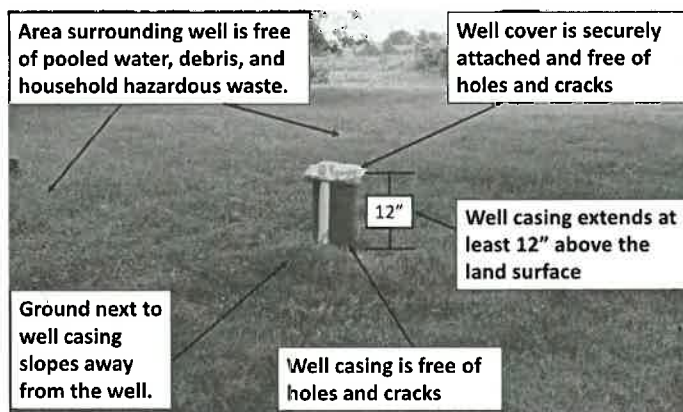
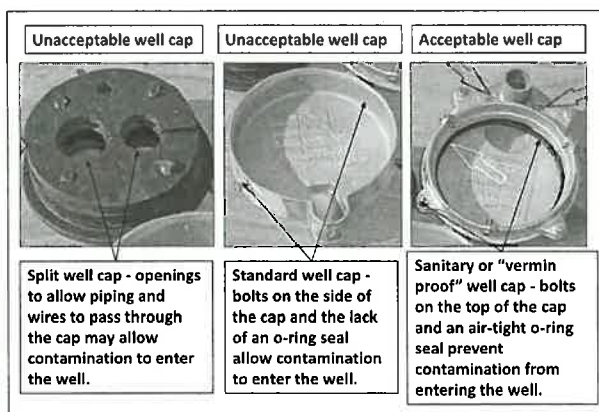

Figure 1: Photo of a properly constructed well.
Figure 2: Photos of acceptable and unacceptable well caps
- **Maintenance of well:** Homeowners should inspect the well casing, well cap, and well area at least annually to make sure that the well is protected from potential sources of contamination (see Figures 1 and 2 and the attached checklist for descriptions of which items to inspect). Unacceptable well caps should be replaced with an acceptable cap (see Figure 2 below).